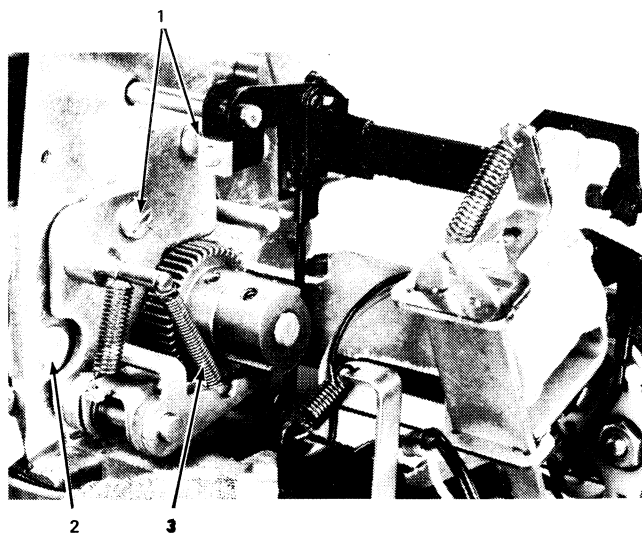

Figure 4-58. Keyboard Removal (Right Side, Printer Tilted Up)
10. Remove the two screws in the filter shaft cam trip lever mounting bracket (No. 1, Figure 4-58).
12. Disconnect the rear of the filter shaft check pawl spring (No. 3, Figure 4-58).